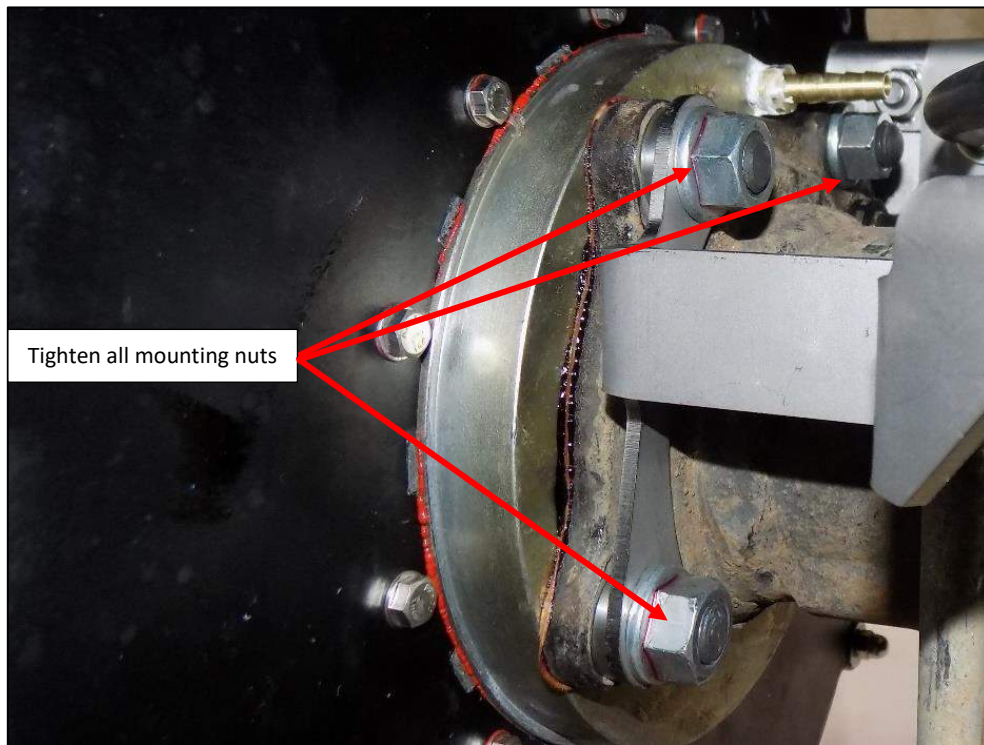

Figure 14
25. Torque the 4 by brake mounting nuts to 80 Nm in a diagonal pattern (Figure 14). Repeat this procedure 3 times over a 5-minute period.